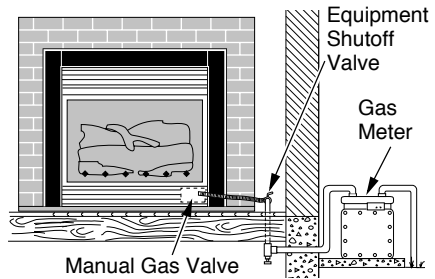
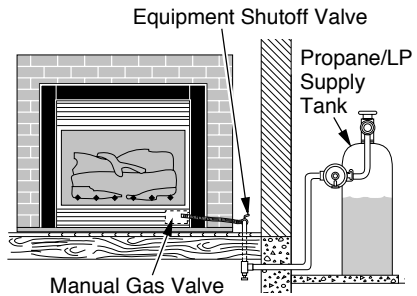

Figure 18 - Checking Gas Joints (Natural Gas)
Figure 19 - Checking Gas Joints (Propane/LP Gas)
3. Check all joints from gas meter to equipment shutoff valve for natural gas (see Figure 18), or propane/LP supply to equipment shutoff valve for propane/LP (see Figure 19). Apply a noncorrosive leak detection fluid to all joints. Bubbles forming show a leak.
4. Check all joints from gas meter to equipment shutoff valve for natural gas (see Figure 18), or propane/LP supply to equipment shutoff valve for propane/LP (see Figure 19). Apply a noncorrosive leak detection fluid to all joints. Bubbles forming show a leak.